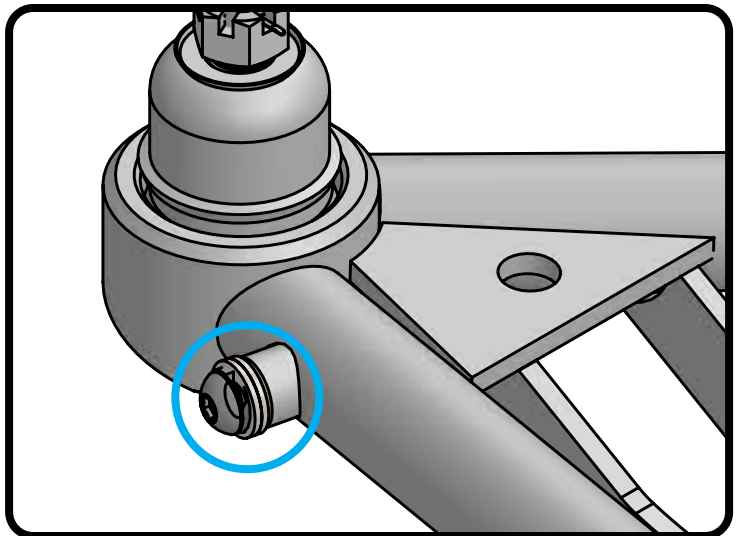

Figure 5
6. Slide a 3/8" lockwasher and 3/8" flat washer(s) onto one of the 3/8"-16 button head screws. Two different button head screw lengths and extra washers have been provided to accommodate various tire widths. Thread it into the bung on the rear tube of the control arm (Figure 5). You will need to adjust the steering stop for your particular application. Torque to **12 ft-lbs**.